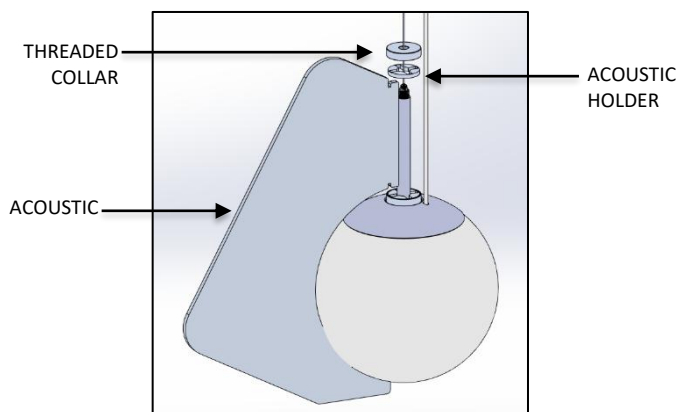

FIG. 40 – ACOUSTIC FIN INSTALLATION
32. Raise the upper ACOUSTIC HOLDER and THREADED COLLAR and insert ACOUSTIC FINS into lower ACOUSTIC HOLDER as shown in FIG. 40.